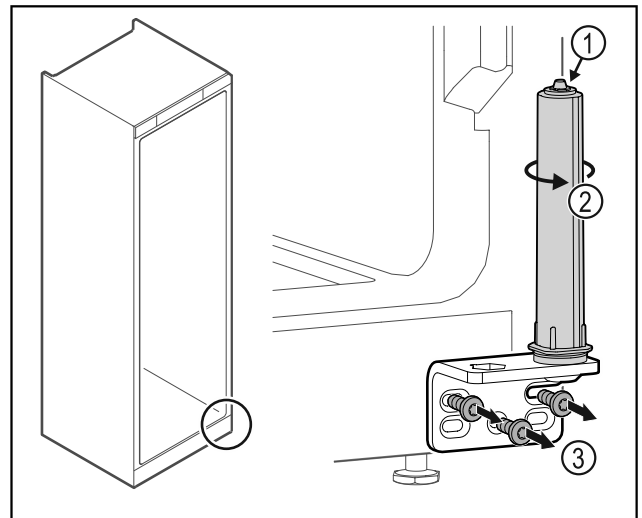

Fig. 38
- Do not disassemble the door closing system Fig. 38 (1).
- Turn the closing system Fig. 38 (2) until it clicks.
- Unscrew the hinge Fig. 38 (3).